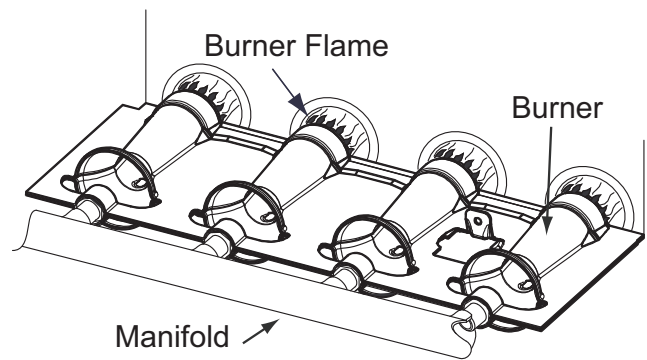

Fig. 61 - Burner Flame
- i. When correct input is obtained, replace cap that conceals gas valve regulator adjustment screws. Main burner flame should be clear blue, almost transparent. See Fig. 61.